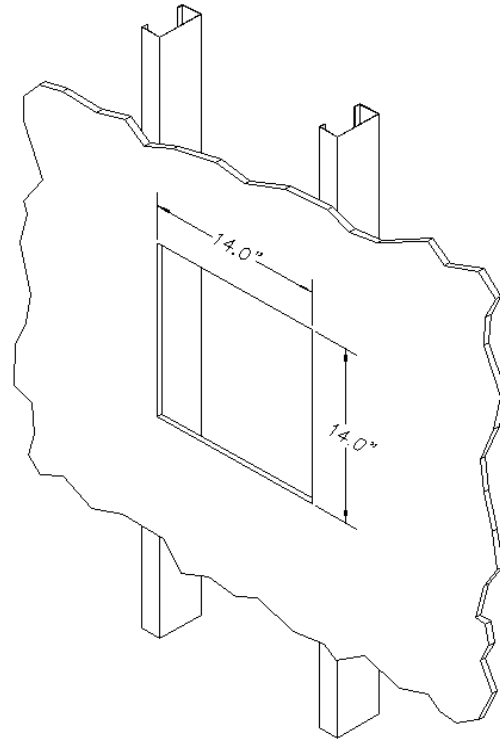

Figure 3 - Prepare wall or ceiling by cutting 14" X 14" opening.
Step 4 – To prepare the wall/ceiling for installation, cut a 14" X 14" square hole in the gypsum board (Reference *Figure 3*). The hole should be located centrally between two adjacent studs/joists. There must be a minimum of 4" of free space available behind the wall to allow for clearance of the enclosure.